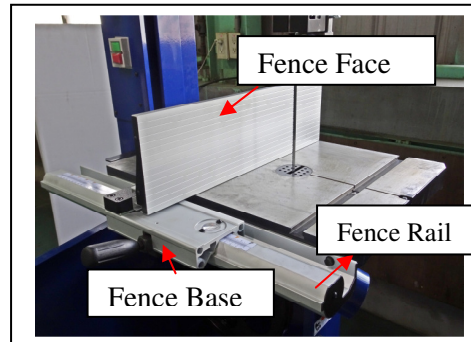

Figure 8
2. Install the fence rail to the table. Use (1) two M6 spring washers (2) two M6 hex head bolts (3) two M6 flat washers.(see Figure 8)
3. Place fence base on fence rail. Slide the fence on its guides until it is the required distance from the blade. Push lock lever down to secure fence in place.(see Figure 8)
4. Fix the fence face to the fence base.(see Figure 8)